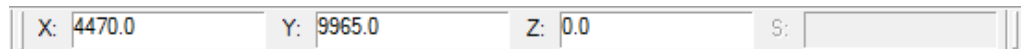

Figure 4 XYZS Bar
3. In the *XYZS Bar*, enter “4470” for X and “9965” for Y (Figure 4). This will move the point to those coordinates.